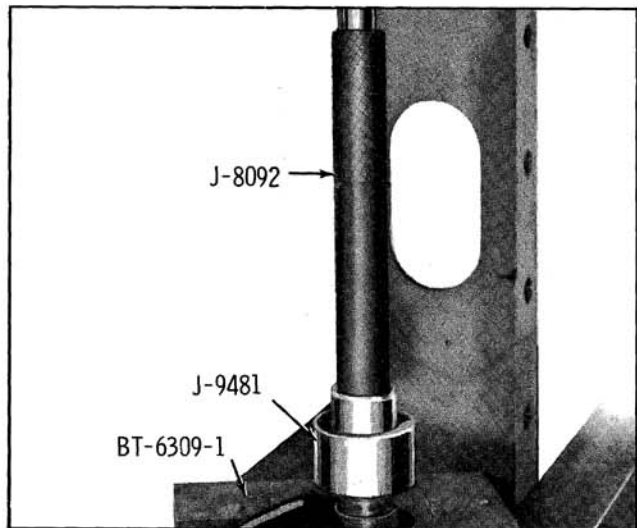

Fig. 9-17 Installing Upper Control Bushings
5. To install bushings, place pivot shaft in control arm and press new bushing into control arm and over end of pivot shaft. (Fig. 9-17)